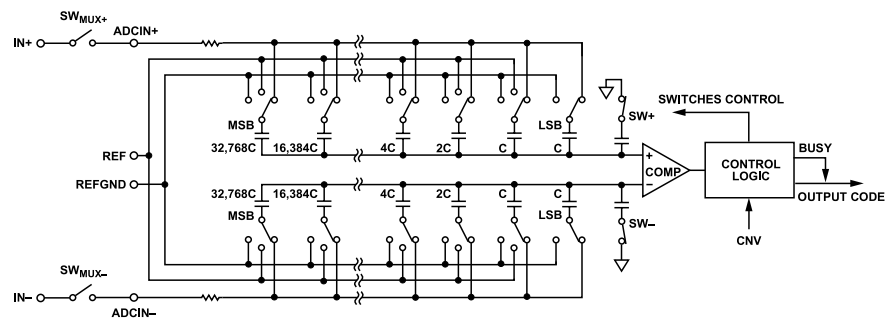
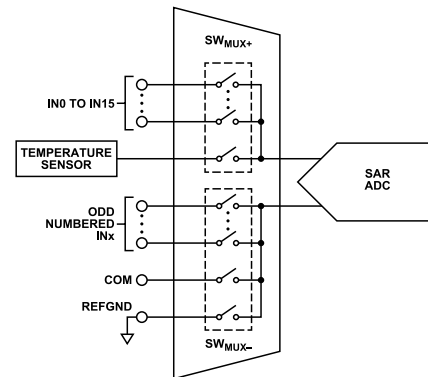
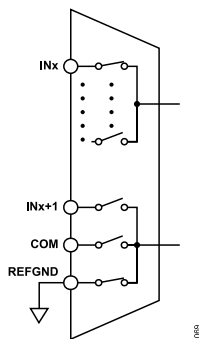

Figure 63. ADC Simplified Schematic
Figure 67. Multiplexer Simplified Schematic
Figure 68. INx Paired with REFGND
The AD4695/AD4696 contain an SAR-based ADC core that utilizes a charge redistribution digital-to-analog-converter (DAC) to quantize the applied input voltage to an output code. Figure 63 shows a simplified schematic of the AD4695/AD4696 SAR ADC core.
The analog inputs and the temperature sensor are connected to the capacitor array inputs (ADCIN+ and ADCIN-) via the internal low crosstalk multiplexer, represented by SW_{MUX+} and SW_{MUX-} in Figure 63. The multiplexer switches are controlled by the internal channel sequencing logic and are updated once per conversion (see the Multiplexer section and the Channel Sequencing Modes section).
A low crosstalk analog multiplexer routes the signals from the analog input pins to the ADC core inputs. The impedance of the analog inputs is modeled as the parallel combination of the pin capacitance (C_{PIN}) and the network formed by the series connection of R_{IN} and C_{DAC} . R_{IN} represents the ADC input series resistance and the multiplexer switch resistance and is typically 240 Ω . C_{DAC} represents the ADC sampling capacitive DAC shown in Figure 63, and is typically 60 pF.
The AD4695/AD4696 contain a flexible, low crosstalk analog multiplexer for selecting from the 16 analog inputs and internal temperature sensor and routing them to the inputs of the 16-bit, pseudo differential SAR ADC core. Figure 67 shows a simplified schematic of the internal multiplexer. The SW_{MUX+} and SW_{MUX-} switches shown in Figure 63 and Figure 67 represent the multiplexer switches that route the selected channel to the ADC inputs (labeled ADCIN+ and ADCIN- in Figure 63). SW_{MUX+} and SW_{MUX-} are break-before-make and are controlled by the internal channel sequencing logic (see the Channel Sequencing Modes section).
The multiplexer allows flexible analog input channel configuration. The SW_{MUX-} position is user programmable, and can be assigned to any of the pins shown in Figure 67 (see the Channel Configuration Options section).
The channel configuration settings include pin pairing assignments and signal polarity modes. The pin pairing options assign the position of SW_{MUX-} for each position of SW_{MUX+} and determine which signal is routed to the negative side of the SAR ADC core (ADCIN- in Figure 63). The signal polarity modes configure the ADCIN- voltage range. Figure 68 shows the pin pairing and voltage ranges for the different channel configuration options.
- ▶ Figure 68, IN0 to IN15 paired with REFGND
When the temperature sensor is selected, the multiplexer $\text{SW}_{\text{MUX}+}$ switch (see Figure 67) selects the temperature sensor output and its $\text{SW}_{\text{MUX}-}$ switch selects REF_GND, and the SAR ADC core samples V_{TEMP} to generate a corresponding output code. The analog-to-digital conversion of the temperature sensor output utilizes the same transfer function as an analog input configured in unipolar mode with $\text{OSR} = 1$ (see the Transfer Function section).